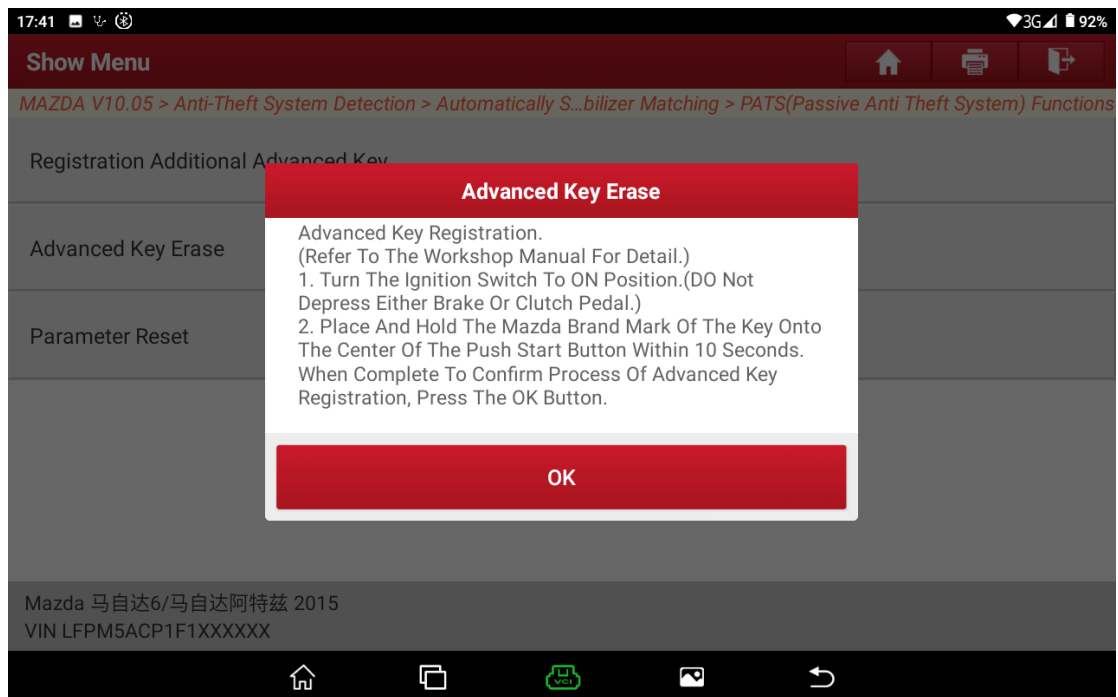

Figure 20
18. The operation prompt is displayed. See Figure 20.